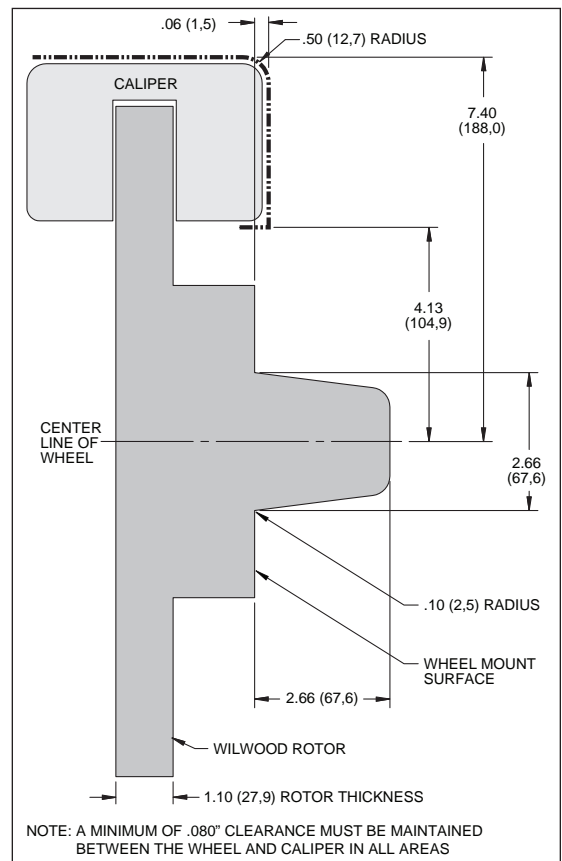

Figure 3. Wheel Clearance Diagram
- Verify wheel clearance utilizing figure 3.